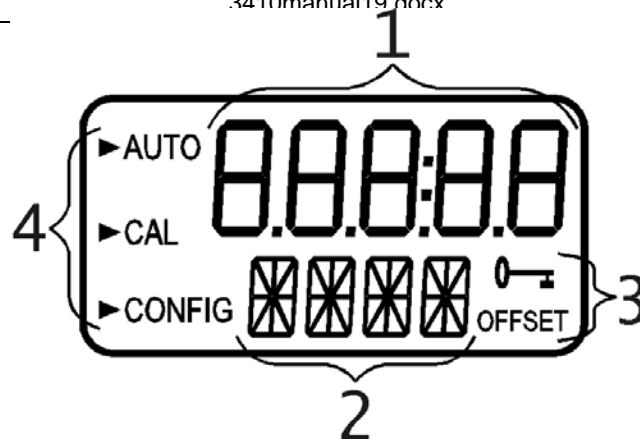

Figure 1 - Display used in the instrument
Figure 1 illustrates all the items that can appear on the display. The upper row of the display (1) is used for reporting the oil ppm levels and to provide user guidance in the customer setting routine. The lower row of the display (2) is used to communicate error messages and provide user guidance. The display has two icons (3) that are used to indicate the use of access code and offset mode. In addition, mode arrows (4) are used to indicate the current instrument operating mode; AUTO (normal operation), CAL (calibration) and CONFIG (configuration).